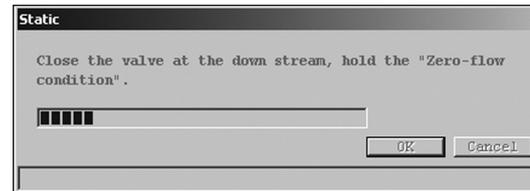

Fig.109
- ④ During the check, a progress bar will appear as shown in Fig. 109, allowing for the confirmation of the state of the check.